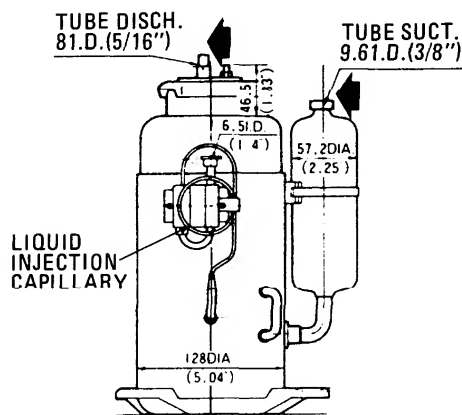

Fig. D-12
- 5) With an Oxy-Acetylene torch apply heat uniformly and unbrazed the joints of upper section of the Liquid Injection Capillary tube to the compressor, the upper section of the accumulator and the upper section of the compressor discharge pipe respectively, and pull them free with pliers. Fig. D-12 shows unbrazing points with arrows.